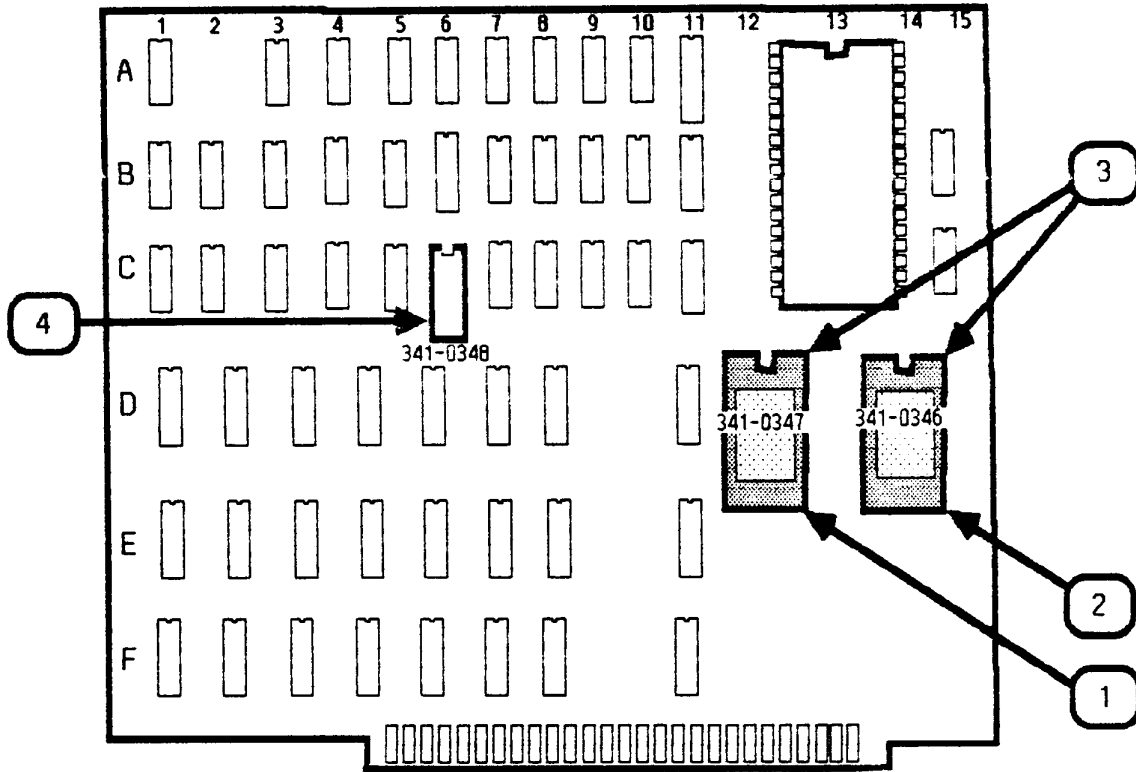

FIGURE 1
a) Use an IC puller to remove the two boot ROMs (Figure 1, #1 & 2) from the CPU board.
CAUTION: When installing ROMs be sure to orient them so that the notches (Figure 1, #3) are facing the same direction as the notches on the surrounding chips.
b) Remove the new 28-pin ROM (P/N 341-0347) from the anti-static bag and carefully insert it into the socket at location 13-D (Figure 1, #1).
c) Remove the new 28-pin ROM (P/N 341-0346) from the anti-static bag and insert it into the socket at location 14-D (Figure 1, #2).
d) Use an IC puller to remove the 20-pin video state machine ROM at location 6-C (Figure 1, #4).
e) Remove the new video state machine ROM (P/N 341-0348) from the anti-static bag and insert it into the socket at location 6-C (Figure 1, #4).